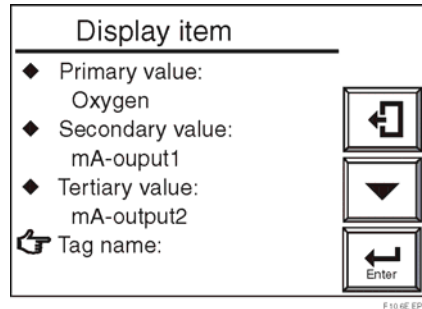

Figure 10-6 “Display Item” Display
3. Select the Display item from the Display Setup display screen. The display shown in Figure 10-6 then appears.